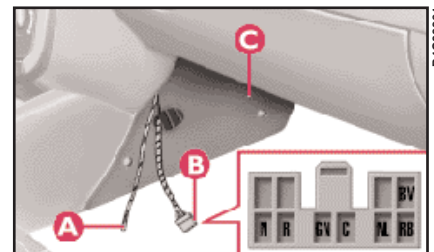

fig. 95
– cables to connect the dual purpose aerial **A** (fig. 95) and a ten pin connector **B** and cables to supply power and to connect to the dual purpose speaker located on the front part of the central tunnel. To access the cables, remove the screws and flap **C**.